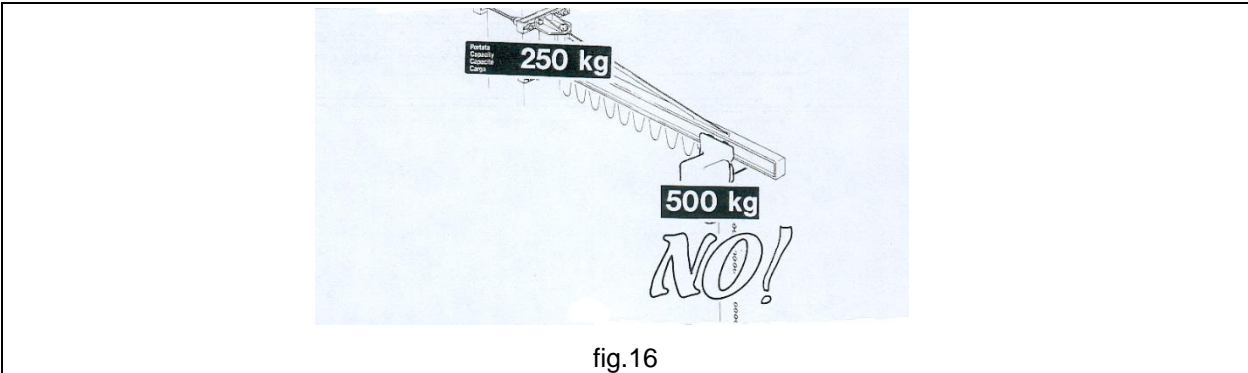

fig.16
3. The characteristics of the lifting unit (trolley/hoist), if not part of the supply, are compatible with those of the jib crane (see point 2.2.7) in relation to: (fig.16)